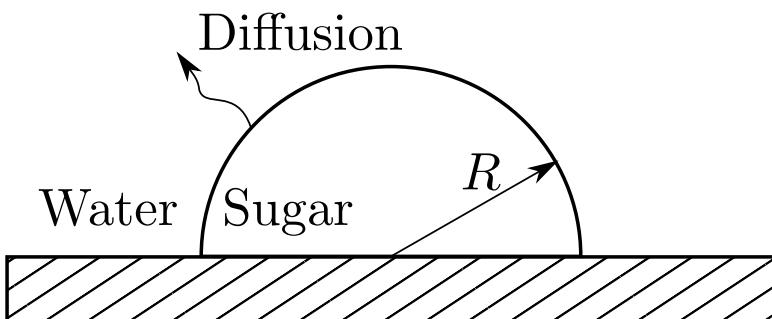

Figure 27: The lump of dissolving sugar.
- b) A hemispherical lump of sugar, initially of radius  $R = 0.005 \text{ m}$ , is dropped into a cup of tea, quickly coming to rest on the bottom of the cup as shown in Fig. 27. The sugar lump then slowly dissolves into the tea. The diffusion coefficient of sugar in tea is  $4 \times 10^{-10} \text{ m}^2 \text{ s}^{-1}$ . The saturation mole fraction of sugar in tea is 0.1 and the total molar density of the system is  $c = 55 \times 10^3 \text{ mol m}^{-3}$ .